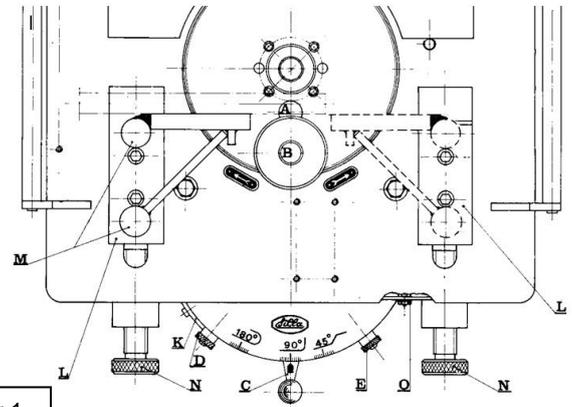

Fig.1
(for installation, set-up, use and maintenance, see instructions supplied with the attachment). Remove the screw on the extreme left side of the bending sector, remove the small plate "K" (Fig. 1) and move stop "D" (Fig.1) and lever "C" (Fig.1) completely to the left. In this position the limit switch is excluded from the circuit. Then turn the inverter "I" to position "2" to allow anticlockwise rotation. To carry out bending, press the "BENDING" push-button (or the foot-switch): the turntable will continuously turn in the fixed direction to carry out the spiral. If you want to stop bending, press the "STOP" push-button. If you want to restore the normal bending conditions (45 – 180 degrees), do as follows:
- 2) – Move lever "C" (Fig.1) completely to the right for automatic return to zero position of the electric system. This movement makes the turntable rotate from a minimum of one turn to a maximum of five turns to bring it to zero position.